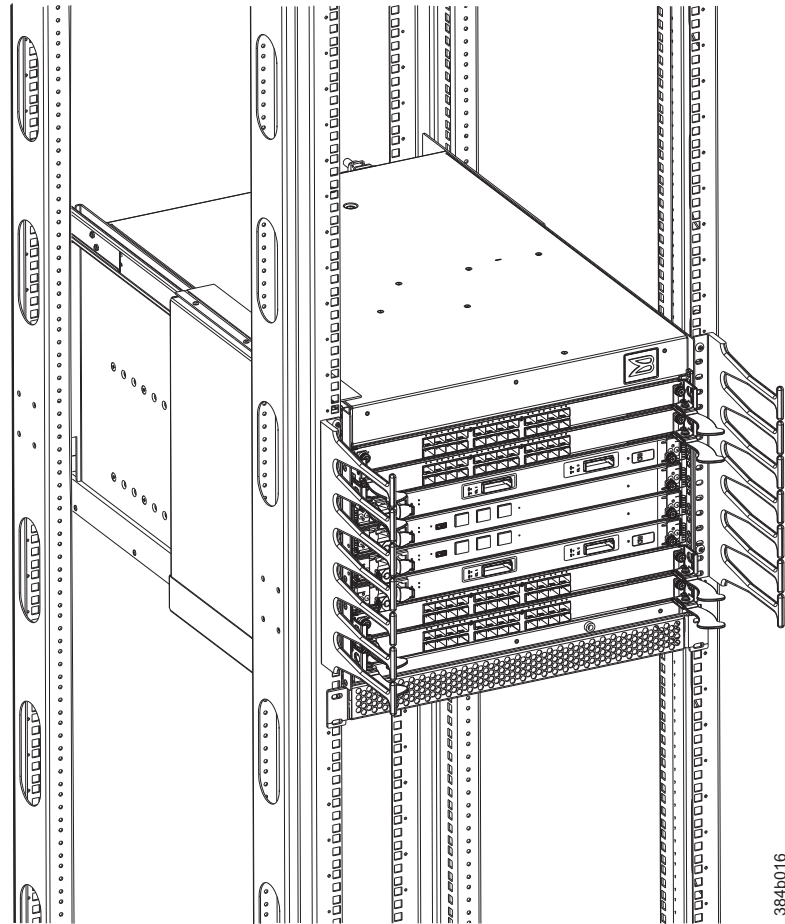

Figure 32. Cable management finger assemblies
3. Unscrew and save the two screws that attach the cable management assembly to the rack upright (see Figure 32 on page 63). Support the assembly to prevent it from falling.